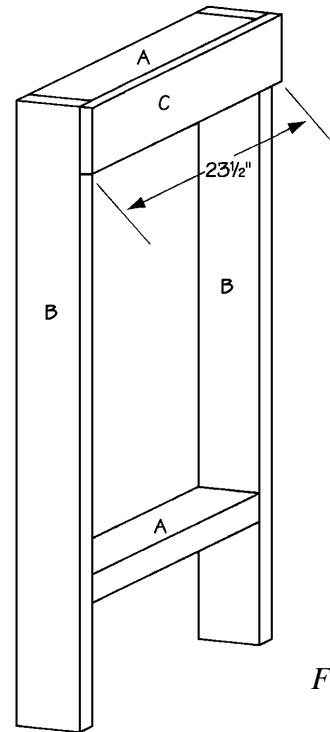
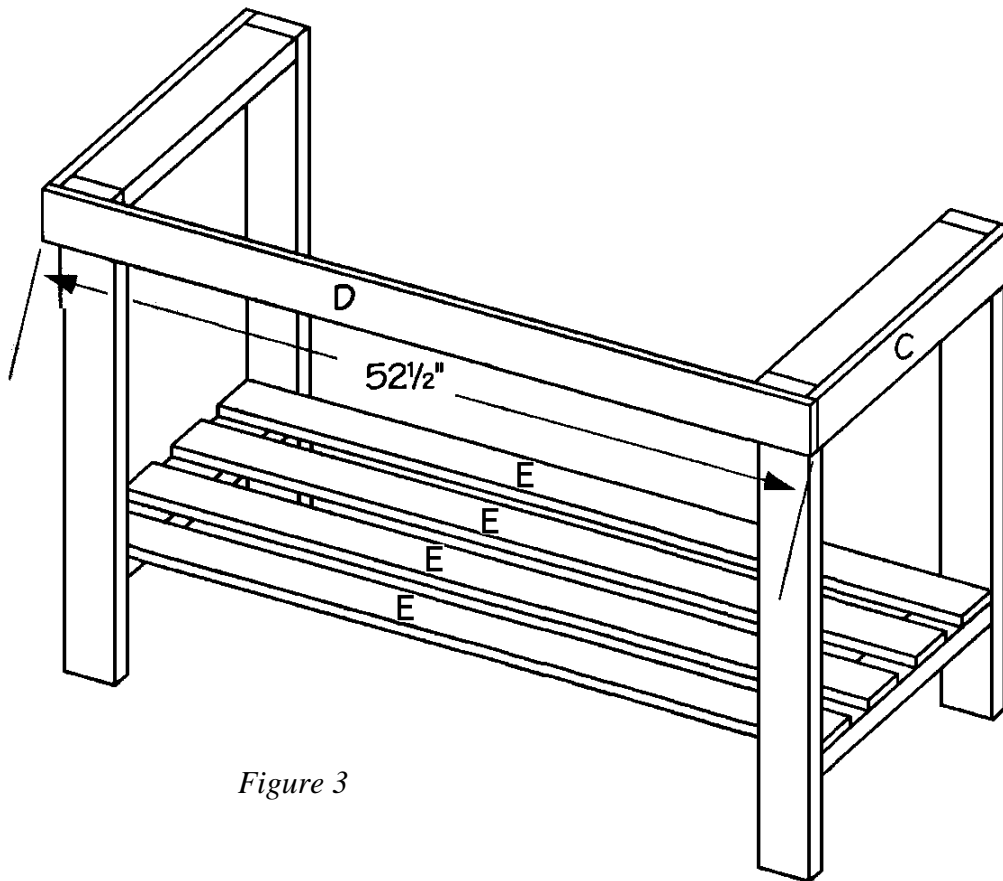

Figure 2
Figure 3
2. Apply glue to the meeting surfaces, and attach one side trim piece (C) to the top of one assembled side support, as own in *Figure 2*. Screw through the side trim (C) into the upper horizontal side (A) and the two vertical sides (B). Use two 1-5/8"-long screws on each of the vertical sides (B) and three screws on the horizontal sides (A). Repeat this procedure to attach the remaining side trim(C) to the other assembled side support.
3. Cut one long trim (D) from 1 x 4 pine, measuring 52-1/2" long
4. Place the two side supports on a level surface, parallel to each other and 44" apart, with the side trim (C) on the outside. Fit the long trim (D) over the exposed ends of the side trim (C), as shown in *Figure 3*. Screw through the long trim (D) into the vertical sides (B). Use two 1-5/8"-long screws on each joint.
5. Cut four shelf slats (E) from 1 x 4 pine, each measuring 51" long.
6. Position the shelf slats (E) evenly spaced over each of the lower horizontal sides (A), as shown in *Figure 3*. Screw through the ends of the shelf slats (E) into the top of the lower horizontal sides (A), using two 1-5/8" long screws on each joint.